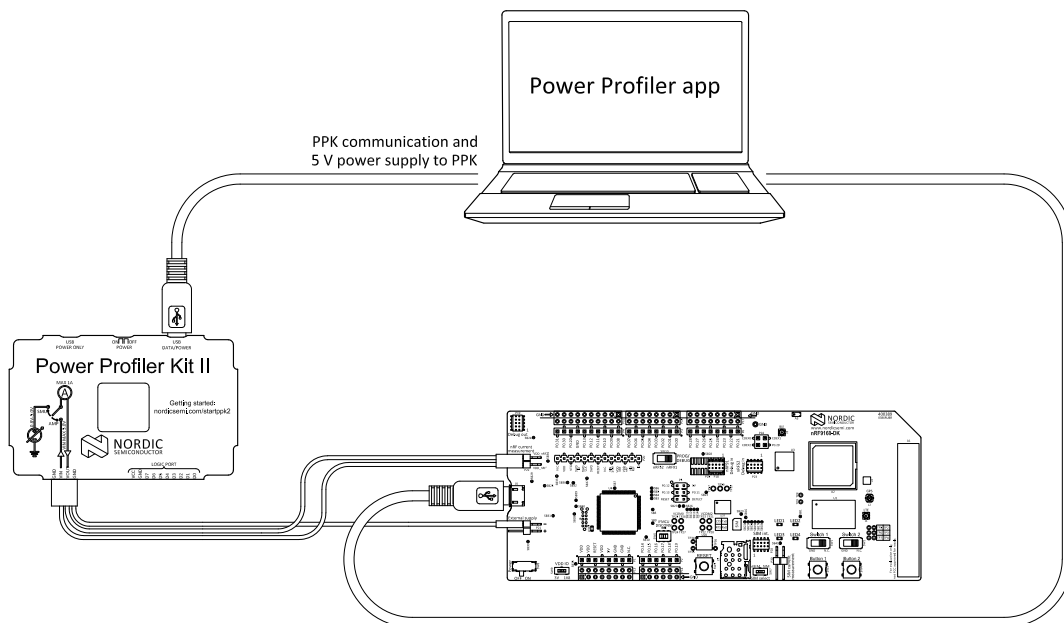

Figure 6: Measuring current in Ampere Meter mode
- If the PPK2 is set up to measure in Ampere Meter mode (see Figure 6: Measuring current in Ampere Meter mode on page 12), select **Ampere meter**.